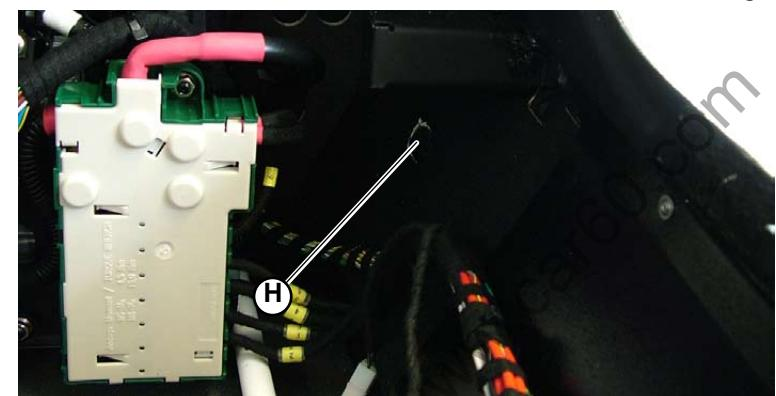

Fig.5
9. Tighten the screws securing the body side member (H-Fig.5) to the car using the free space created by the rear seat cover.